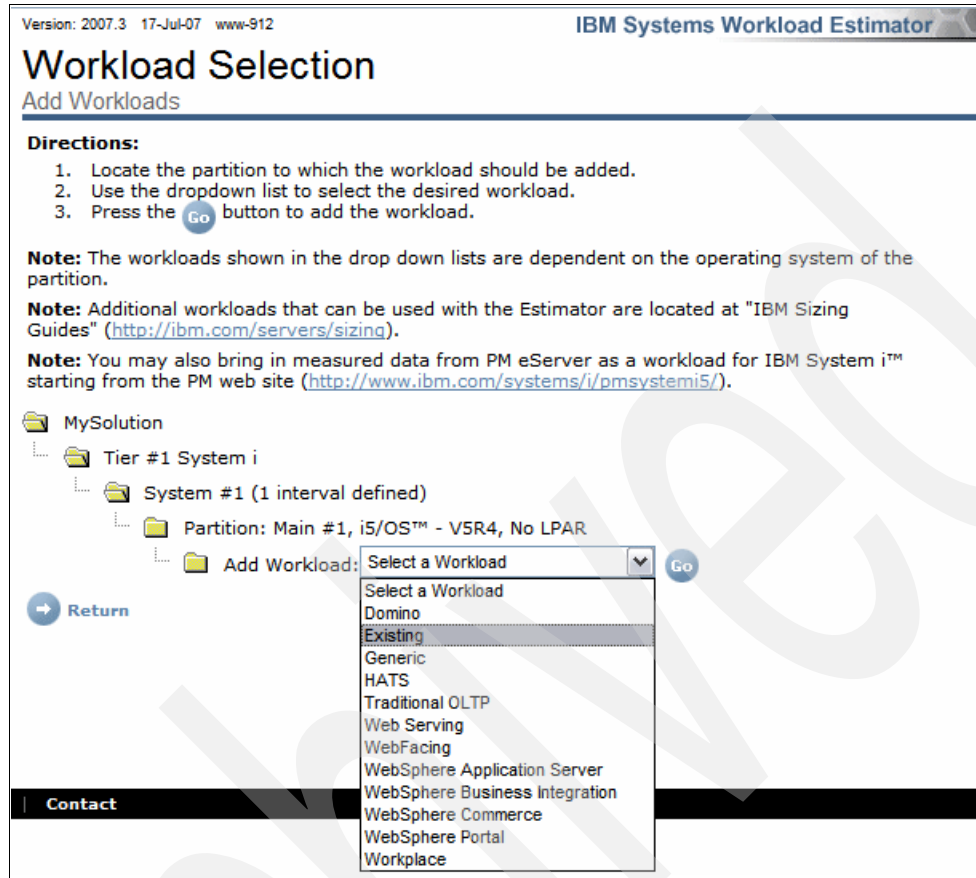

Figure 4-90 Workload selection
5. In the Workload Selection panel (Figure 4-90), for Add Workload, select **Existing** and click **Go**.